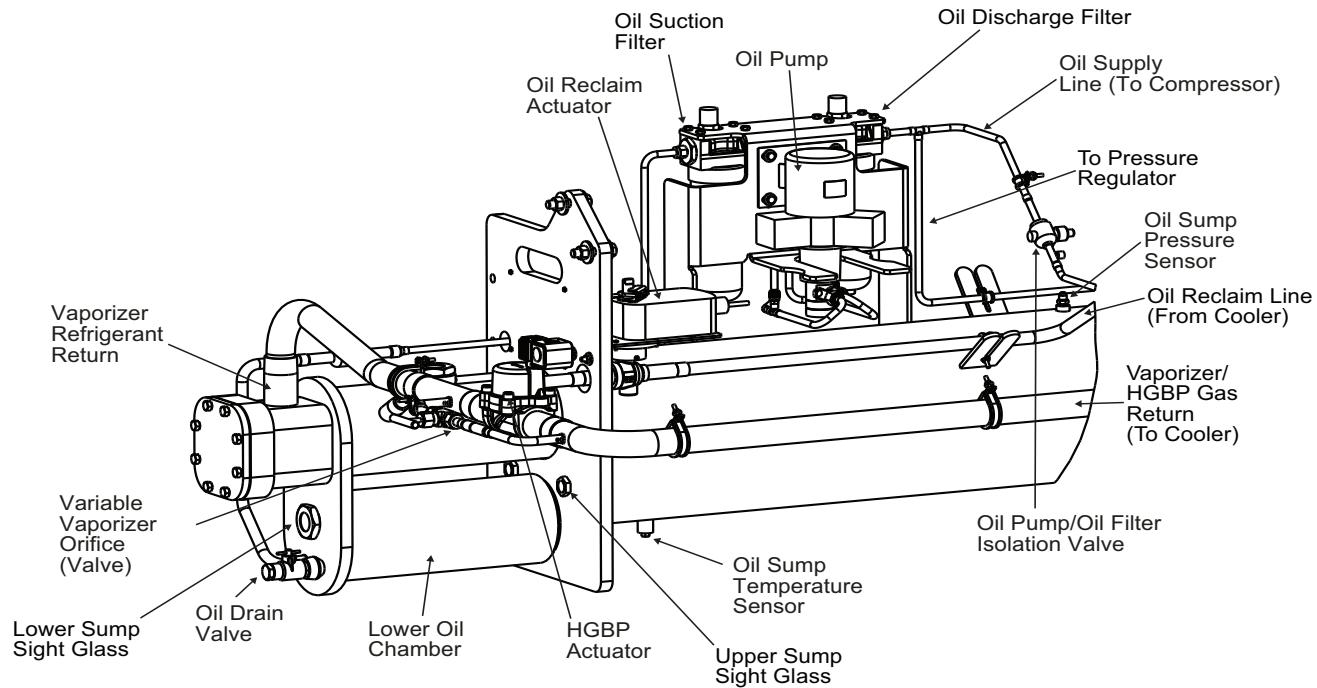

Fig. 52 — 1-Piece Vaporizer Oil Management System
2. Close both oil filter isolation valves. See Fig. 52.
Inspect the oil heater for carbon build-up on the heating element if an adequate oil sump temperature cannot be maintained when the chiller is shut down. It may be necessary to temporarily install the heater element terminal cover to provide additional leverage while threading the oil heater into the sump. The sump oil heater elements must be positioned vertically to allow proper heat convection. See Fig. 52 and 53. The heater element must be installed with the word "TOP" on the threaded fitting facing upward.
For the two-piece vaporizer, there is a metering orifice where the refrigerant return line attaches to the vaporizer (see Fig. 52). This orifice can only be inspected by cutting the vaporizer refrigerant return line near the vaporizer. This orifice should be inspected if hot condenser gas flow through the vaporizer appears to be obstructed. For the single-piece vaporizer, the orifice has been moved outside the vaporizer in the gas return line to the cooler. This orifice is variable (see Fig 52).